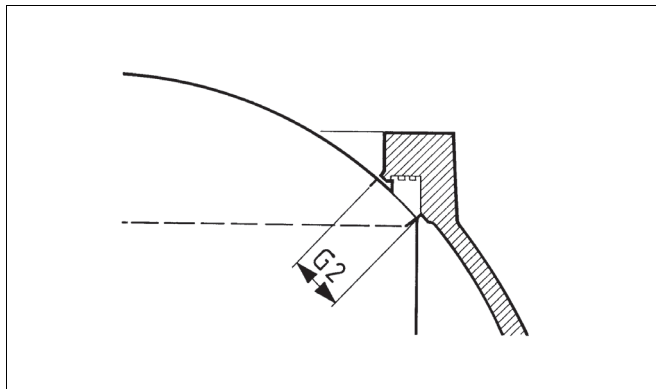

Fig. 21 G2 measure
- Adjust the limit switch's close position, limit switch is activated when the end of the G2 line is just visible directly under the edge of the body flow port, see Fig. 21.